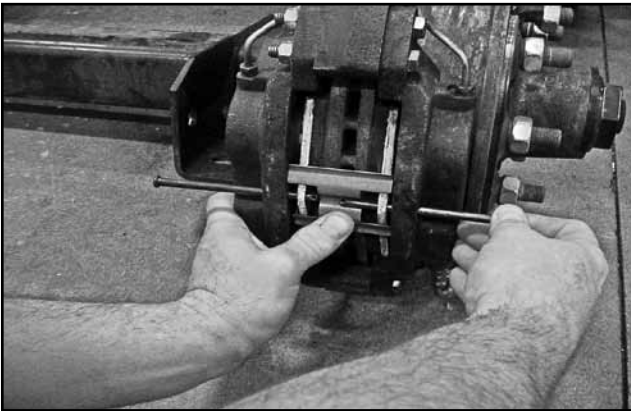

Figure 1
4. Align the brake pad mounting holes with the holes in the caliper. Insert two (2) brake pad retaining pins into each caliper half as shown below in **Figure 1**. Place the anti-rattle spring against the brake pads and press the center toward the rotor while you slide the outboard pad retaining pin toward the inner lining. Continue sliding the pad retainer pin until it engages both pads and pushes the second pin out of the inboard caliper half. Install cotter ring.
6. Reassemble the brake pads into the disc brake. Make sure to locate the brake lining side of the pads toward the rotor surface, and the steel side of the pads toward the calipers. Align the brake pad mounting holes with the holes in the caliper. Insert two (2) brake pad retaining pins into each caliper half as shown previously in **Figure 1**. Place the anti-rattle spring against the brake pads and press the center toward the rotor while you slide the outboard pad retaining pin toward the inner lining. Continue sliding the pad retainer pin until it engages both pads and pushes the second pin out of the inboard caliper half. Install cotter ring.